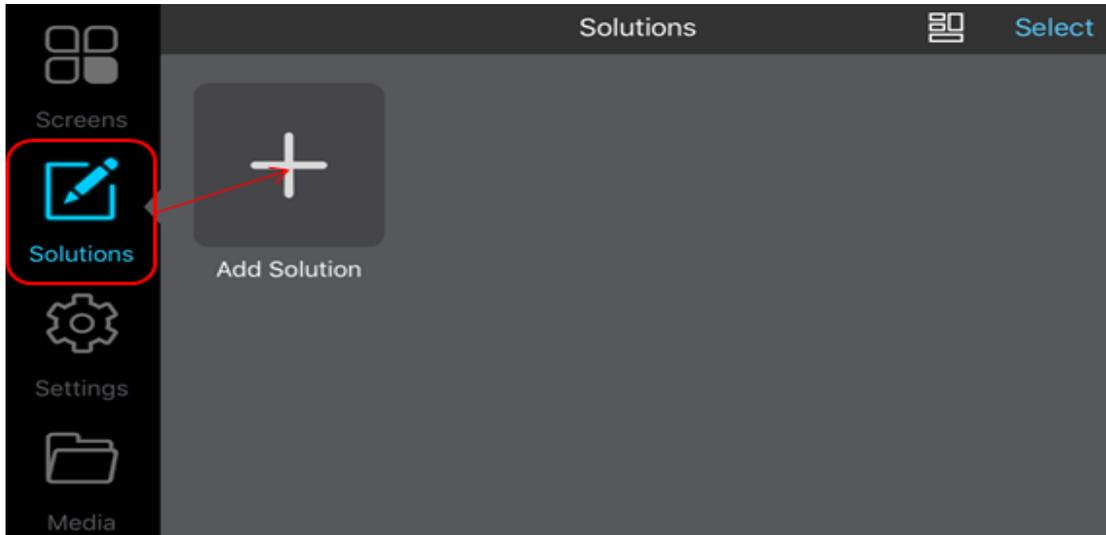

fig 7.15
- a. Click [Solutions] to add solution to create a new playlist, please refer to fig 7.15.